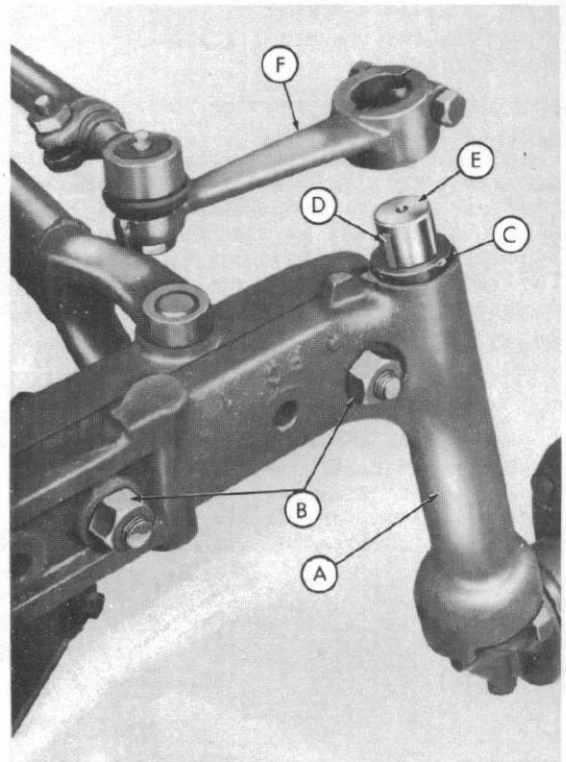

Fig. 7
- Step 3—Remove the steering arm (F-Figure 7) from the top of the wheel spindle E-Figure 7).
- Step 4—Remove the woodruff key (D-Figure 7) and dust seal (C-Figure 7).
- Step 6—Remove the spindle housing and axle assembly (A-Figure 7) by removing the two bolts (B-Figure 7).